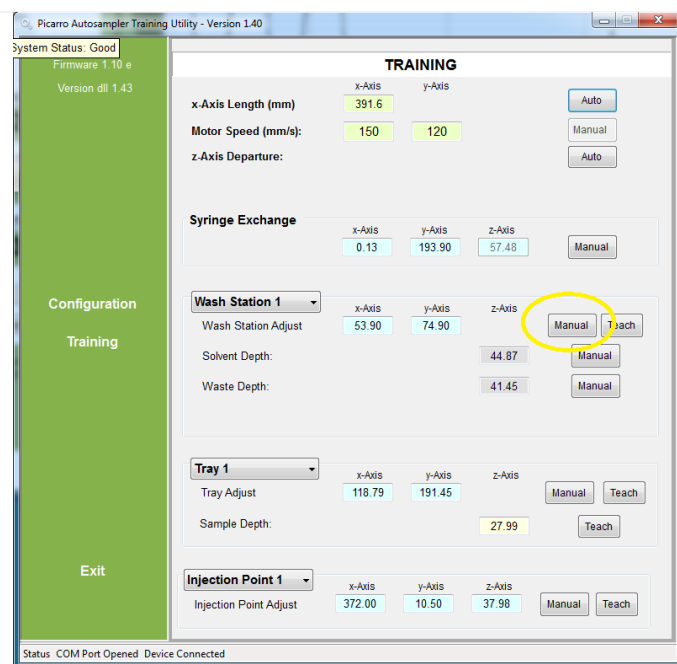

Figure 136. Select Manual for Wash Station.
STEP 16 | Select the “**Manual**” button for **Wash Station** to manually train the Autosampler to align with Waste Port/Wash Station area (Figure 136).